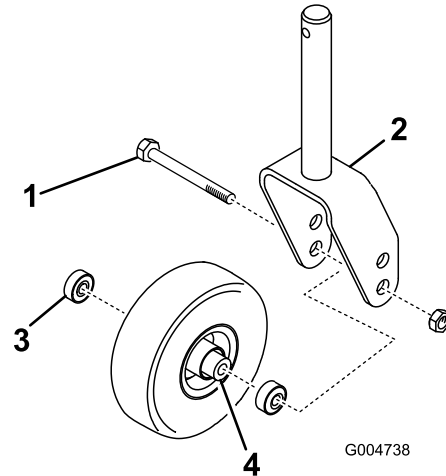
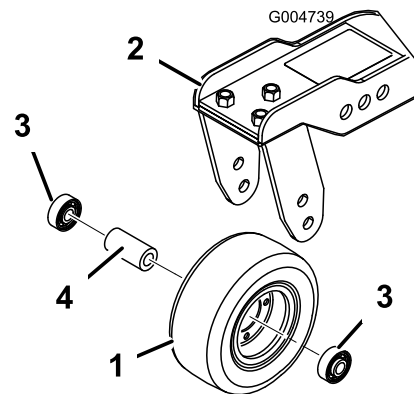

Figure 125
Figure 126
1. Remove the locknut from the bolt holding the caster-wheel assembly between the caster fork (Figure 125) or the caster-pivot arm (Figure 126).
2. Remove the bearing from the wheel hub and allow the bearing spacer to fall out (Figure 125 and Figure 126).